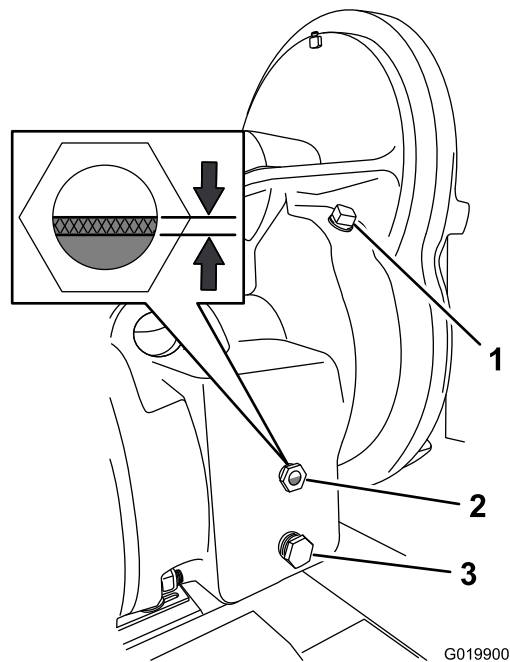

Figure 68
2. At the right side of the gear case, examine the oil level in the sight glass (Figure 68).
- A. Remove the fill plug from the fill port in the housing of the gear case (Figure 68).
- B. Slowly add the specified oil into the fill port until the oil level is between 1/3 and 1/2 of the sight glass (Figure 68).
- E. Install the plug into the fill port in the housing (Figure 68).
1. Align a drain pan with a 3-quart capacity under the drain plug (Figure 68).
2. Remove the drain plug from the drain port, and completely drain the gear-case oil (Figure 68).
3. Remove the fill plug (Figure 68).
5. Install the drain plug in the drain port (Figure 68).
6. Slowly add the specified oil into the fill port until the oil level is between 1/3 and 1/2 of the sight glass (Figure 68).
7. Install the fill plug in the fill port (Figure 68).